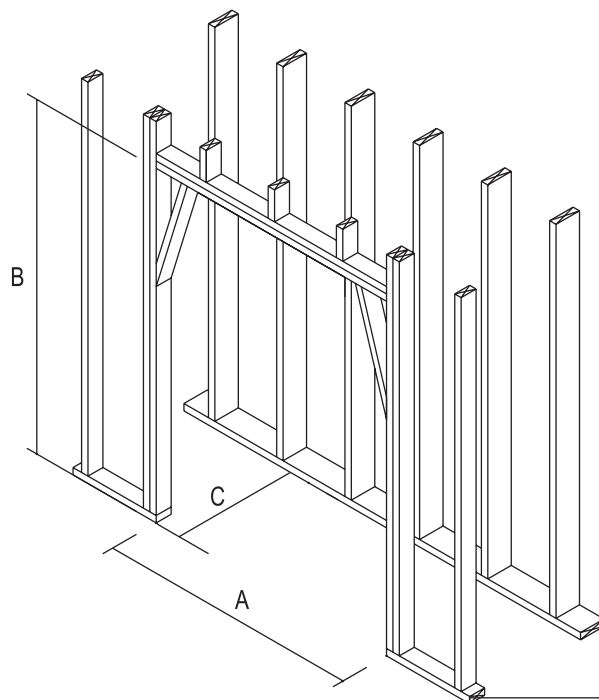

FIGURE 10
4. Rough framing dimension for depth "C" allows for the required 1½" clearance at the back of the Fireplace. 29 1/2" is only for an interior wall as most exterior wall framing have insulation, even if the wall is 2x6, the foam they spray expands so typically 31" is allowed on an exterior wall **(Figure 10)**